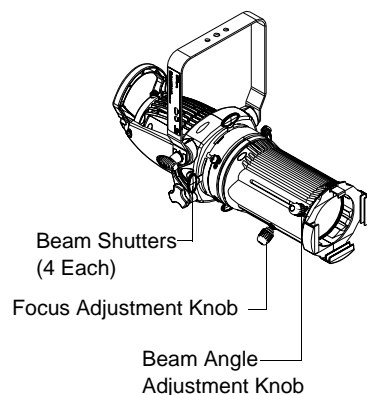

Figure 6: Variable Beam Models - Beam Adjustments
- Step 2. Using X-Axis Adjustment, Y-Axis Adjustment, and Beam Distribution Adjustment Knob (as indicated in Figure 6) set beam distribution as desired. Note, X and Y-Axis adjustments require the use of a flat-head screwdriver.
- Step 3. Loosen Beam Angle Adjustment Knob as shown in Figure 6.